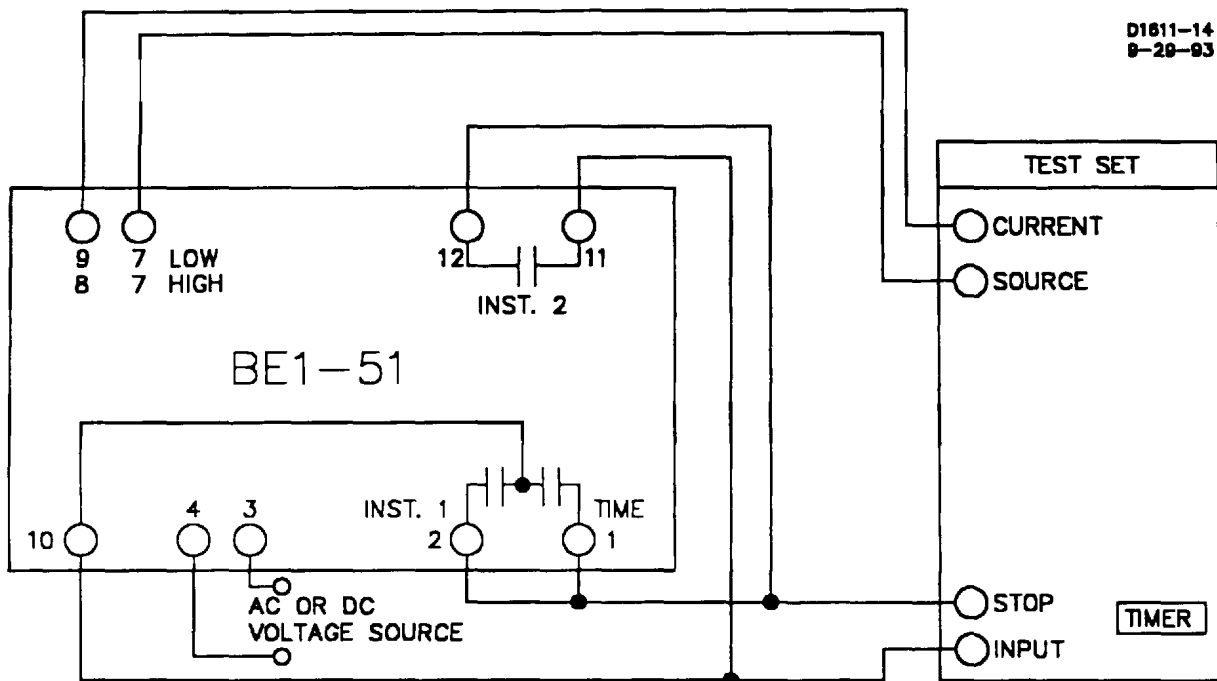

Figure 5-1. Test Setup for Sensing Input Type K (Single-Phase Sensing)
Minimum test equipment required for relay testing and adjustment is listed below. Refer to Figures 5-1 through 5-4 for test setups.
Step 1. Connect the relay test setup in accordance with Figures 5-1 through 5-4, depending upon the sensing input type for your relay (See Figure 1-1, Style Number Identification Chart).
(a) Sensing Input Type K (Single-Phase Sensing). Refer to Figure 5-1.